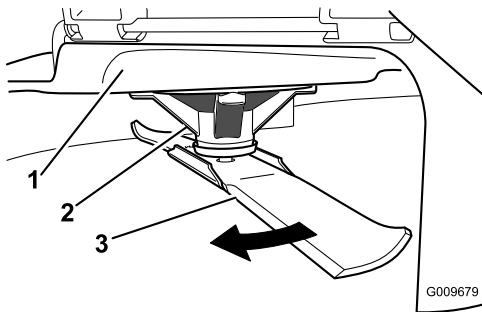

Figure 45
2. While wearing thickly padded gloves, or other adequate hand protection, slowly rotate the blade to be measure into a position that allows effective measurement of the distance between the cutting edge and the level surface the machine is on (Figure 45).